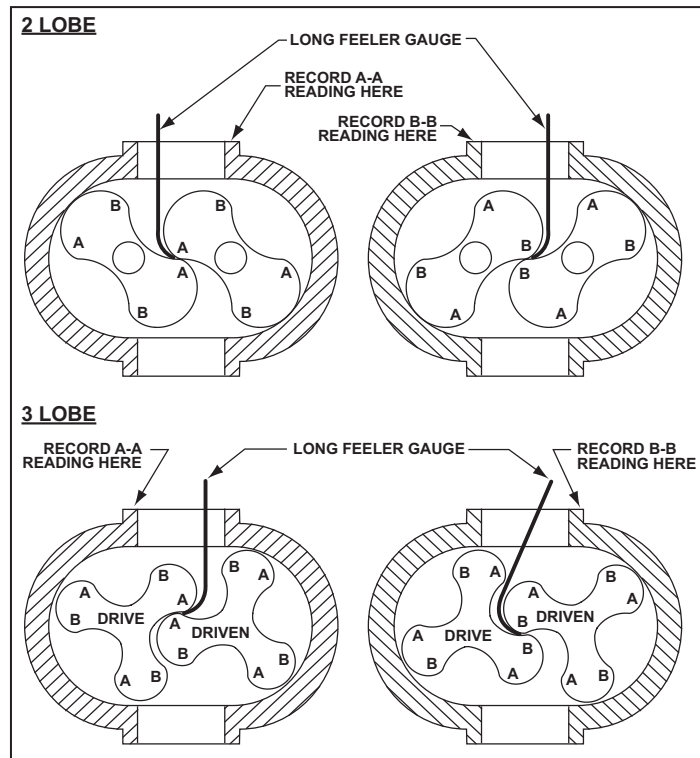

Figure 14 - Checking Rotor Interlobe Clearance
**EXAMPLE:** Referring to Figure 14, check the clearance on a 6000 model at AA (right-hand reading) and BB (left-hand reading). If AA reading is .017" (.43 mm) and BB reading is .004" (.10 mm), by removing .018" (.46 mm) of shims, the readings should then read: AA .011" (.28 mm) and BB .010" (.25 mm).